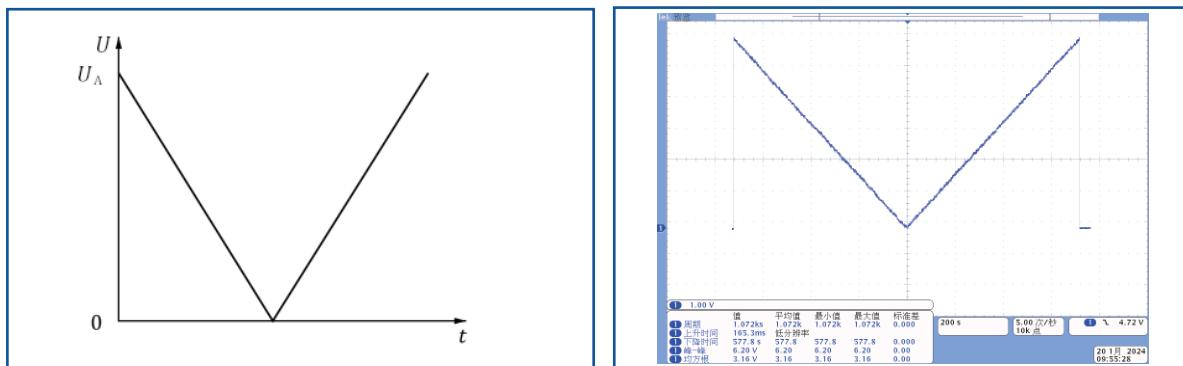

Figure 6 — Test profile for Slow decrease and increase of supply voltage
■ Decrease the supply voltage from  $U_A$  to 0 V, then increase it from 0 V to  $U_A$ , as described in Figure 6, applying a change rate of  $(0.5 \pm 0.1)$  V/min, either linear, or in equal steps of not more than 25 mV.